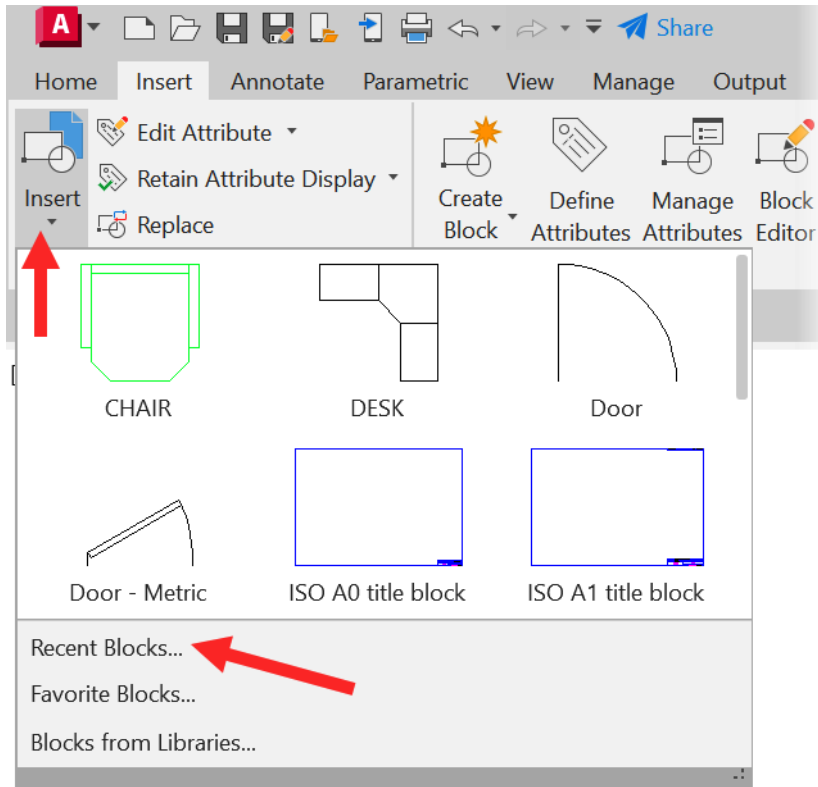

Figure 9.7: The Insert drop-down menu with Recent Blocks arrowed
3. Select the **Insert** dropdown on the **Insert** tab on the ribbon and select the **Recent Blocks...** option, as shown in *Figure 9.7*.